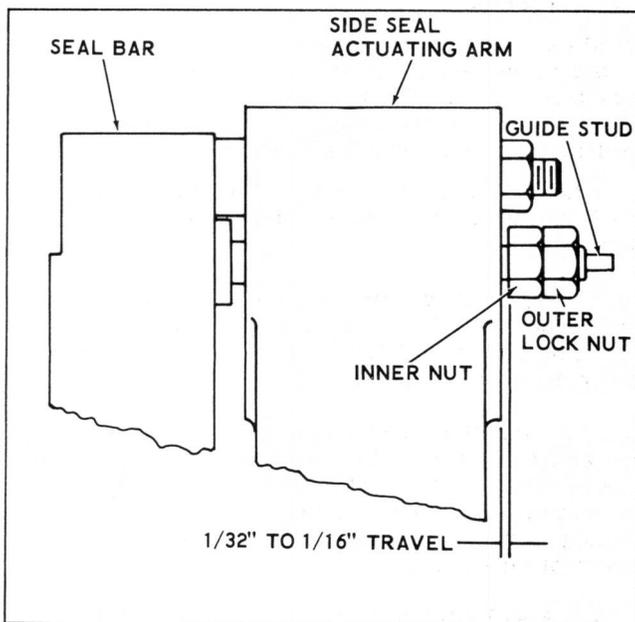

Figure 3-21. Adjusting Side Seal Bar Travel
a. Jog Packager until side seal bars are in fully closed position. Loosen outer lock nut (Figure 3-21) on each travel adjusting screw.
b. Turn inner nut on each travel adjusting screw in or out as required to obtain a 1/32 to 1/16 inch dimension (Figure 3-21) between the face of rocker arm casting and inner face of inner nut. When dimension is obtained, tighten lock nut against inner nut to secure setting.